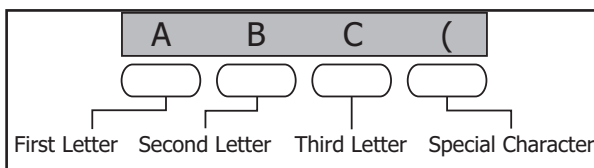

Figure 6: Security Command Select Keys
**Note: On Security Command, Thinline and Aqualite keypads,** when instructed to press the first Select key, press the far left Select key; the second Select key is the second from the left; third Select key is second from the right; and the fourth Select key is the far right key. See Figures 6 and 7.